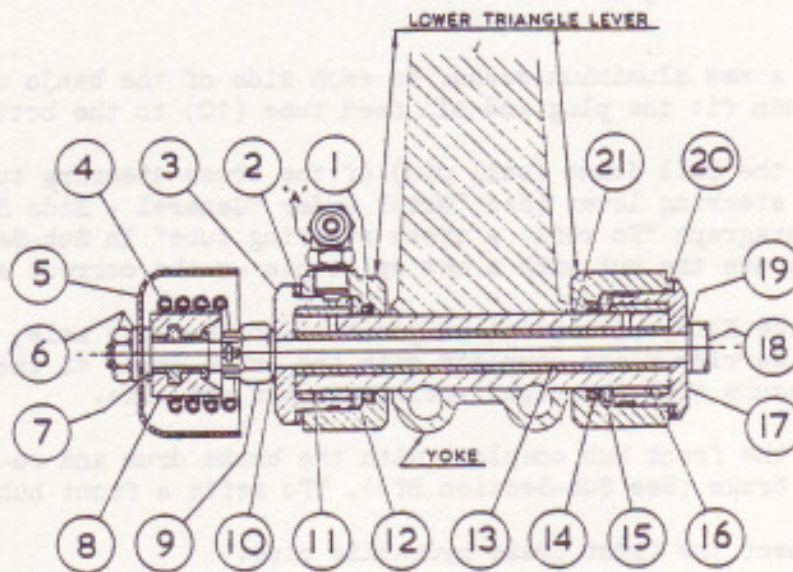

FIG. 6. SECTION - YOKE LOWER BEARING.
- (vii) Bend up the tabs of the lockwasher (2) to secure the pivot pin nut. Place the restricting pin (4) into the pivot pin, lubricate the upper bearing with oil. Smear the joint face of the top cover (1) with a jointing compound and fit the cover.
- (viii) Place a new aluminium washer on each side of the banjo connection (9), and then fit the plug and oil feed tube (10) to the bottom cover.
- (i) Remove the nut and spring washer (6 Fig.6), the cover (5) and the plain washer from the bolt (18).
- (ii) Disconnect the coiled oil pipe (4) from the three-way junction situated on the torque arm and from the elbow connector fitted to the front of the yoke. Remove the clip from the yoke and then remove the pipe and the distance piece (8). Cover up the Bijur connections to prevent ingress of foreign matter.
- (iii) Remove the split pin and castellated nut (9) and the aluminium washer (10). Remove the two clamping bolts from the lower end of the yoke.
- (iv) Tap out the bolt (18). Remove the roller housing (3), together with the adjusting washer (2). Remove the bearing pin and the distance piece (21 & 13) which will remove with it the rear roller housing and adjusting washer (17 & 20) from the lower triangle lever. Attach each adjusting washer to its respective housing.
- a) Needle Rollers (11 & 16 Figs. 6 & 7.)
- b) Felt Washers. (1 & 14 Figs. 6 & 7.)
Felt Washers.	(1 & 14 Figs. 6 & 7.)
- (i) Remove the existing adjusting washers (2 & 20, Fig.6) from the roller housings.
- (ii) Fit the roller housing (17), the bolt (18), the distance piece(13), and the roller housing (3), to the lower triangle lever and tighten up the nut (9). Do not, at this stage, connect the yoke to the lower bearing (triangle lever).
- (v) Fit the bearing pin (21) to the lever and yoke. Place the felt washers (1 & 14) and the roller retaining washers (12 & 15) in position in the lever with chamfered side of washers towards the
felt washers as shown in Fig. 6.
- (vii) Fit the bolt (18), using two new aluminium washers (10 & 19) and tighten up the nut (9) and lock.
- (viii) Centralise the yoke in the fork of the lower triangle lever as far as the two slots in the bearing pin (21) will allow and refit the two bolts removed from the yoke and secure with the spring washers and nuts.
- (x) Place the distance piece (8 Fig.6) on to the bolt. Fit the coiled oil pipe (4) over the distance piece, attach the pipe to the yoke by the clip provided and reconnect the pipe to the elbow connection on the yoke and to the three-way junction on the torque arm.
- (xi) Fit the plain washer (7), the cover (5), and secure with the spring washer and nut (6). Check that oil pipe does not foul the cover.